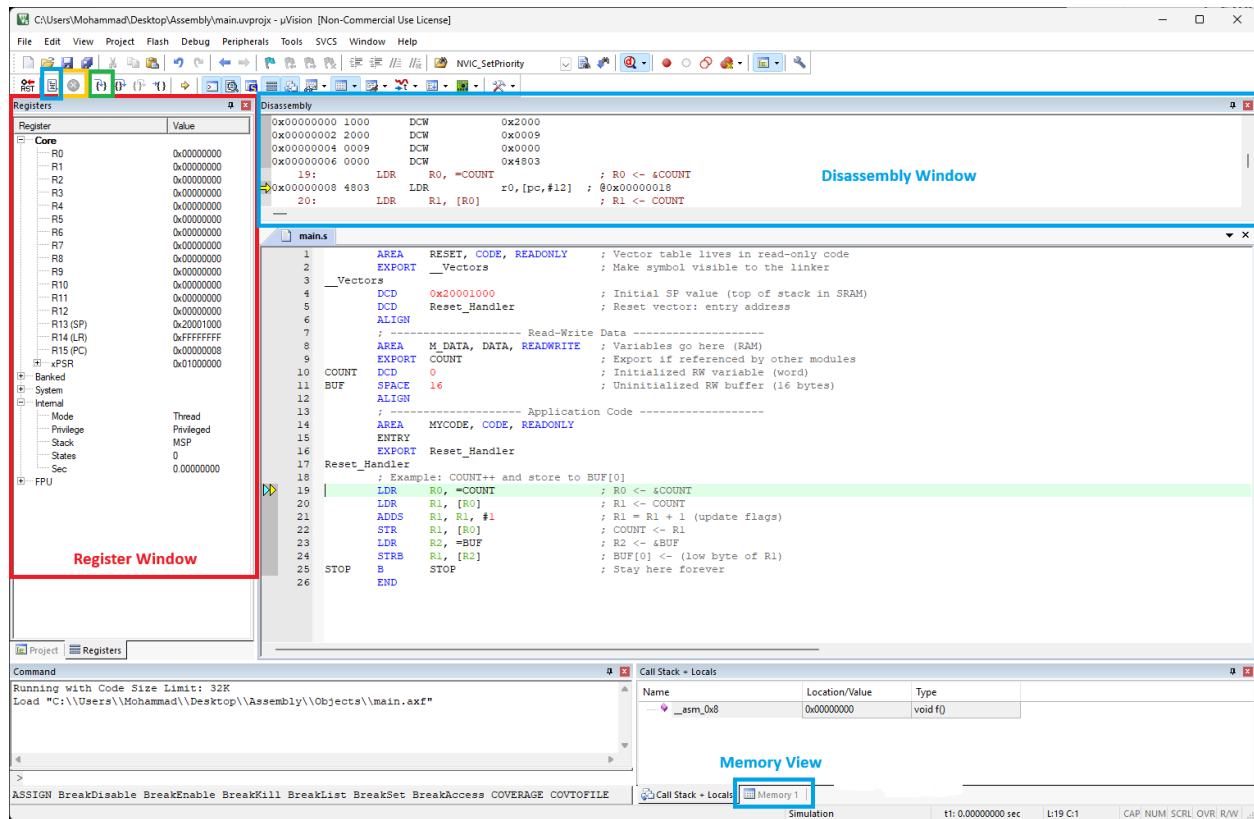

Figure 1.1: Keil uVision5 Debugging Interface
Figure 1.1 shows the Keil uVision5 debugging interface. You can run and debug your assembly program using two main approaches:
- Use the "Step" button (or press F11) marked in green in Figure 1.1 to execute your program one instruction at a time.
- Use the "Run" button (or press F5) marked in blue in Figure 1.1 to execute your program continuously until it hits a breakpoint or completes execution.
- After running, you must stop the execution using the "Stop" button marked in yellow in Figure 1.1.